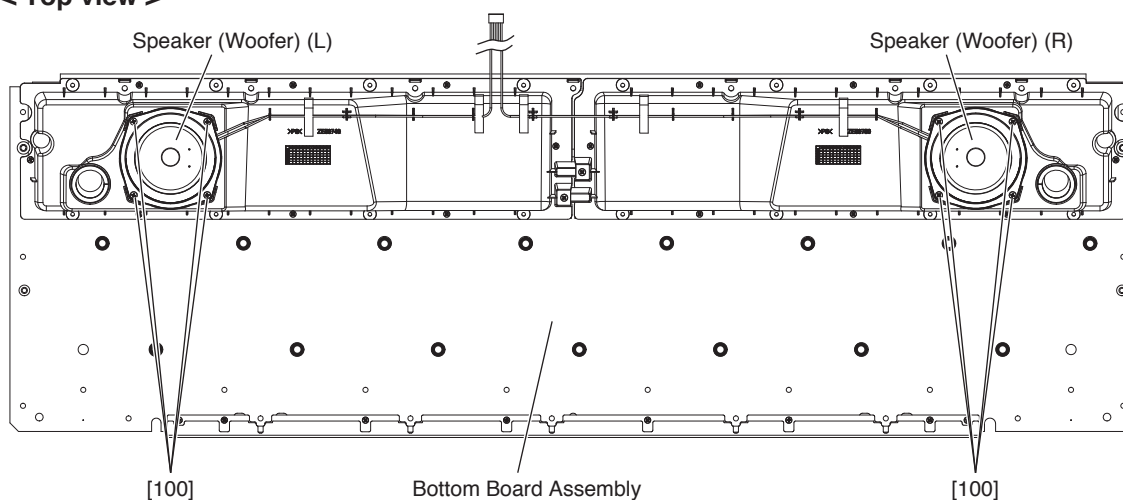

Fig.5
5-2 Remove the four (4) screws marked [100]. The speaker (woofer) can then be removed. (Fig.5)